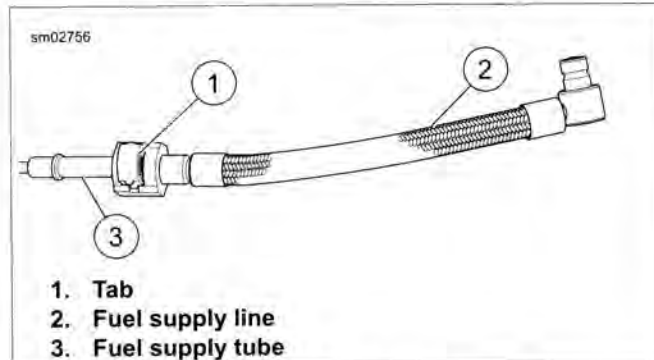

Figure 4-20. Fuel Supply Line
- See Figure 4-20. If replacing fuel supply line (2), squeeze ends of tab (1) and pull tab away from fuel supply line to release from fuel supply tube (3).
- See Figure 4-20. Slide fuel supply line (2) onto fuel supply tube (3). Push in on tab until it locks the fuel supply line (2) on fuel supply tube (3). Tug on fuel supply line (2) to verify that it is locked in place.